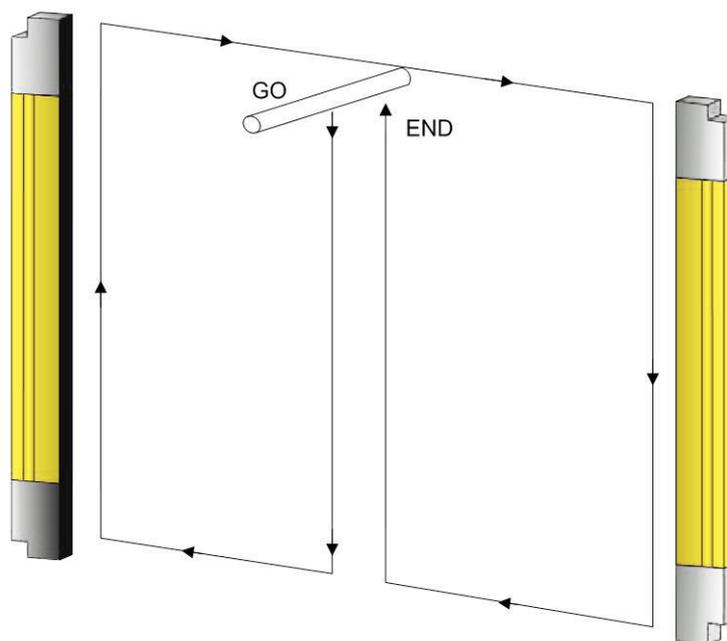

Figure 16 – Scheme for checking the function
- AOPD remains in OSSD OFF state during beam interruption along the entire detection zone, using the suitable “Test piece” according to the Figure 16 scheme. The suitable “Test Piece” has one dimension identical with the resolution of the AOPD, a cylinder with a 14 mm diameter for a light curtain with a 14 mm resolution for example.